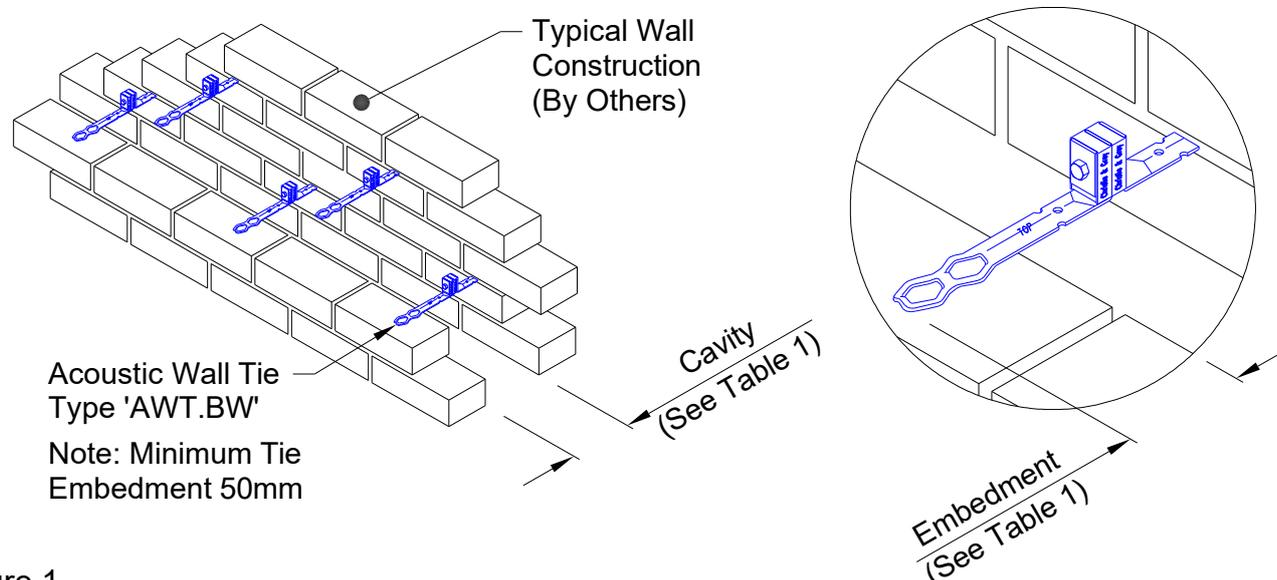

Figure 1
- 1) Bed masonry tie of acoustic wall tie type AWT.BW into mortar of wall construction. Ideally inner and outer walls should be built up together to ensure alignment of acoustic wall ties to opposing brick/blockwork courses (See Figure 1). (Note: Recommended maximum acoustic wall tie spacings are 450mm intervals vertically, 900mm intervals horizontally, positioned in a staggered pattern with additional ties at doors, windows and changes of direction).